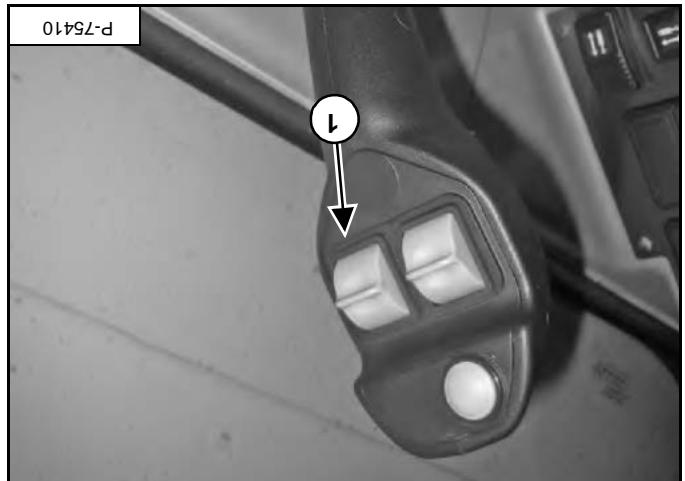

Figure OI-73
Pressing the switch (item 1) [Figure OI-73] up will side shift the trencher to the left.
Pressing the switch (item 1) [Figure OI-73] down will side shift the trencher to the right.